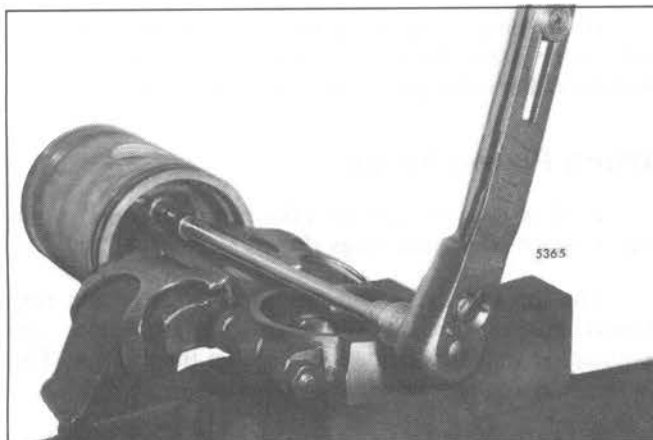

Fig. 9 – Tightening Connecting Rod to Piston Pin Bolts
7. Install and tighten the bolts finger tight. Then, clamp the connecting rod in a vise and tighten the bolts to 55-60 lb-ft (75-81 N•m) torque (Fig. 9). Do not exceed this torque.